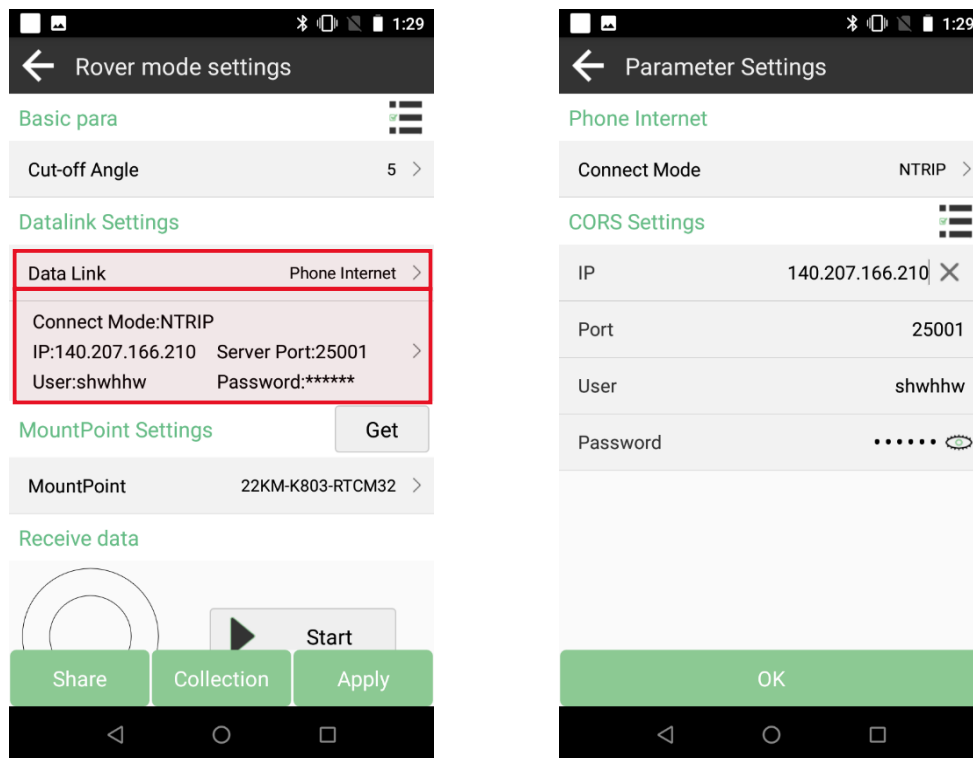

Figure 3.2 Rover Mode Setting
- Click the first box shown in Figure 3.2 to set **data link** as **phone Internet**.